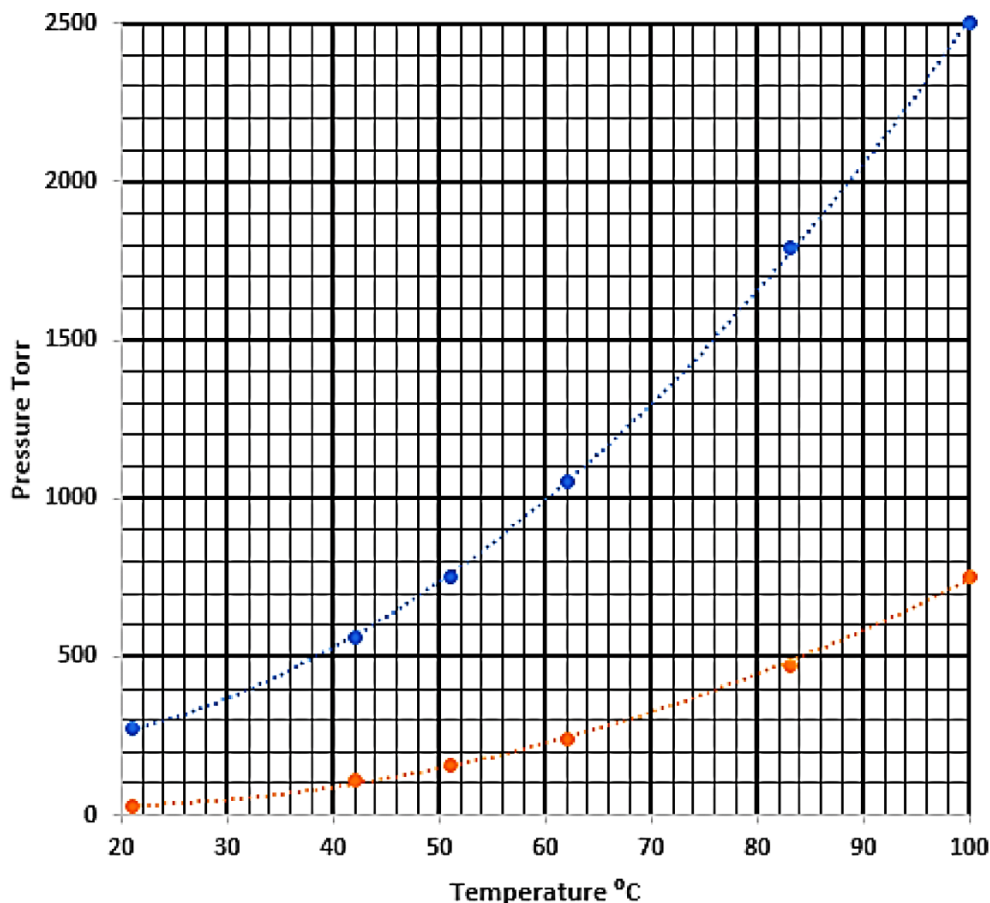

Figure 11.2: Pressures of Ideal Liquids A (blue) and B (orange) at Different Temperatures.
The variations in the pressures of ideal liquids A and B with changes in temperature are shown in Figure 11.2. The symbol P_A will be used for the pressure of pure A later on.
- Using values from Figure 11.2 determine the pressures of pure A, of pure B at 82 °C.
- Compare your values from questions (3) and (4) with the mole fractions of A and B in the liquid mixture. Is the vapor enriched in A or B?